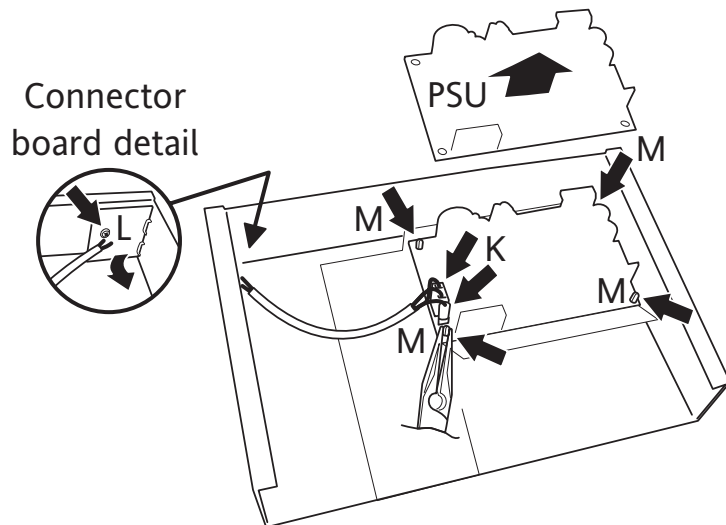

Figure 2.2.5 Power Supply Unit (PSU) removal
2. If the connector board is to be removed, undo the screw ('L' in figure 2.2.5) securing the connector board to the chassis. Keep the screw and its associated shake-proof washer in a safe place for use in re-assembly.